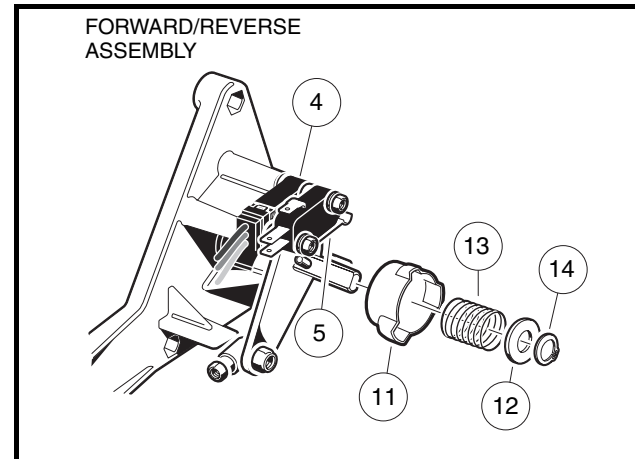

Figure 12-21 Lockout Cam
3. Remove the external snap ring (14) (**Figure 12-21, Page 12-18**).
4. Remove the plastic washer (12) and the spring (13).
5. Remove the cam (11).
1. Install the cam (11) (**Figure 12-21, Page 12-18**).
2. Install the spring (13) and the plastic washer (12).
3. Install the external snap ring (14) into the groove on the shaft. The lockout limit switch should be activated only when the Forward/Reverse handle is in the NEUTRAL position.